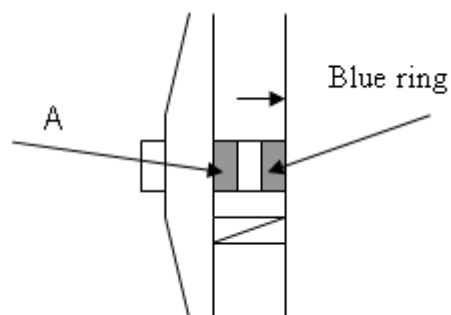

Figure 9
H. Close the door and turn the door knob clockwise and see "A parts" to touch the "Blue ring" as Figure 9.